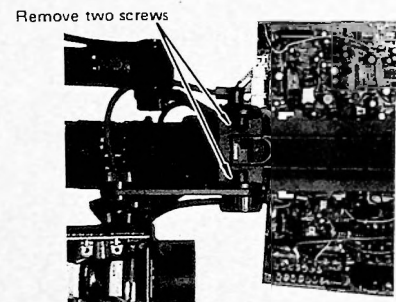

Fig. 7-2
- Remove the MIC holder by removing the two fixing screws. (Fig. 7-2)